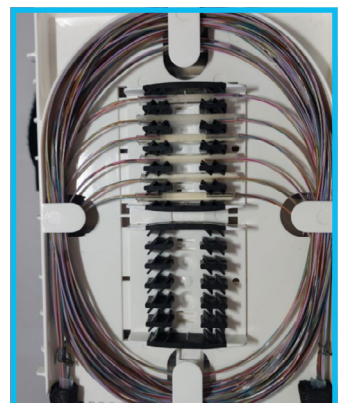

Figure 10.3
4. Once spliced the fibres should be positioned as shown in figure 10.3.